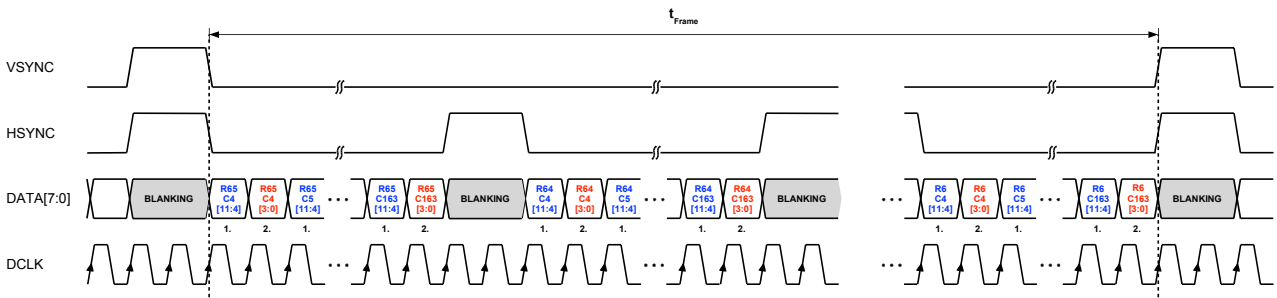

Figure 30: **msb/lbs** split mode
- **msb/lb split mode:** Transfers 12 bit pixel data with MSByte leading and LSByte trailing with 2x DCLK. Refer to Table 14 and Figure 30.